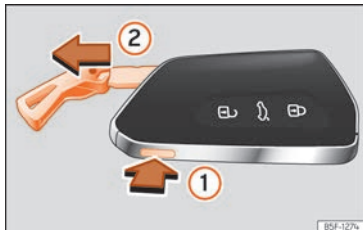

Fig. 72 Vehicle key: remove the key blade.
key ring. Press and hold the button and at the same time pull on the ring in the direction of arrow » Fig. 72 ② to completely remove the key blade.